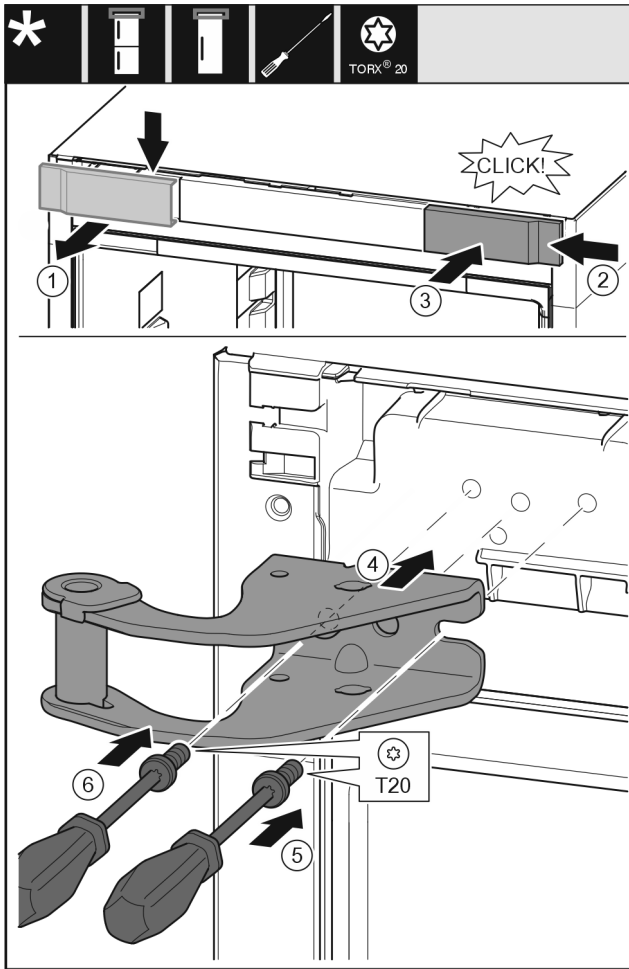

Fig. 13
- Remove the cover Fig. 13 (1) from the top towards the front.
- Hang the cover Fig. 13 (2) from the right turned by 180° to the other side.
- Snap in the cover Fig. 13 (3).
- Attach the top swap bearing block Fig. 13 (4).
- Attach and tighten the screw Fig. 13 (5) with a screwdriver.
- Attach and tighten the screw Fig. 13 (6) with a screwdriver.